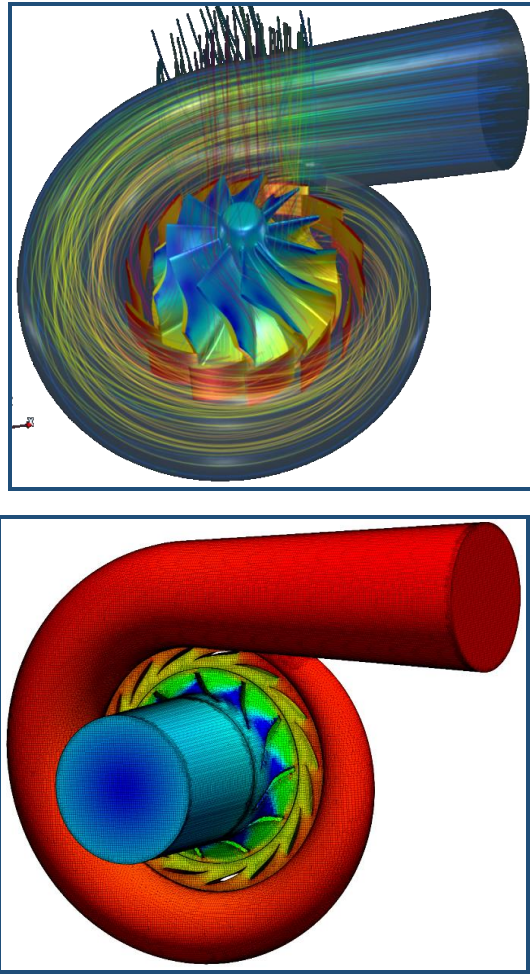

Figure 14.1: Velocity streamlines and pressure contour through radial turbine
8. Analyze the results using the Ansys CFD post to get the contour as shown in Figure 14.1.